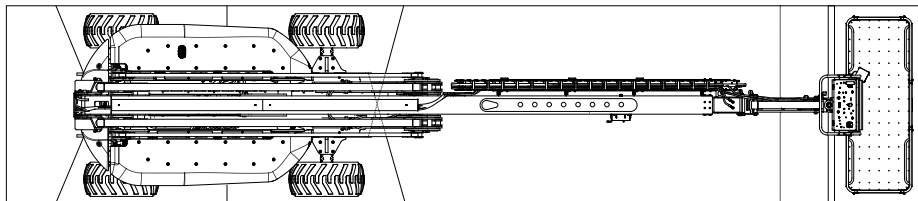

Figure 29 Tie-down Points
6. Anchor down MEWP to transport surface using tie-down points (refer to Figure 29).